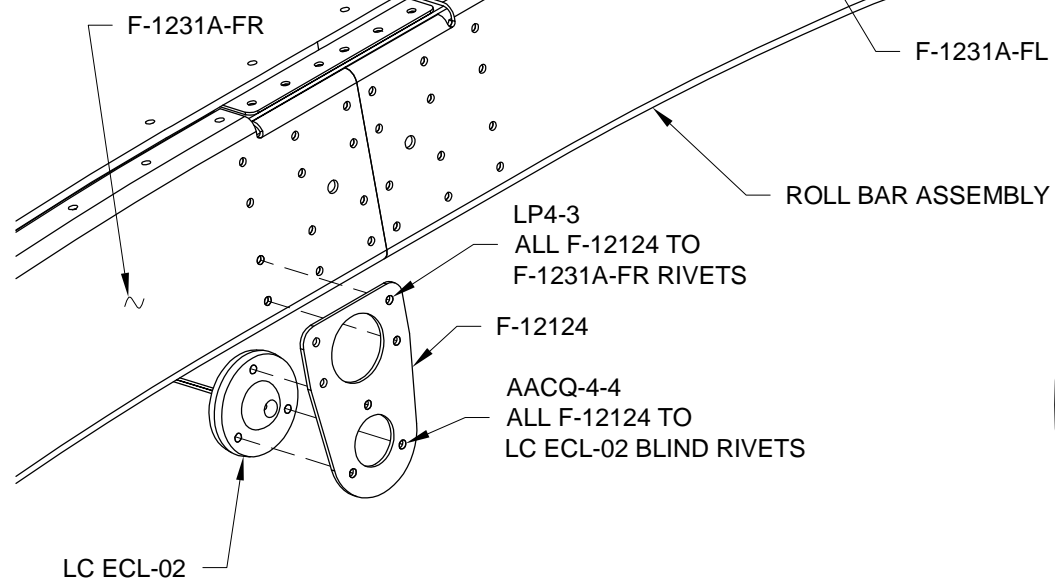

FIGURE 1: ADDING THE LIGHTING BRACKET
Step 3: Remove the two lower right rivets that hold the F-1231A-FR Roll Bar Frame and F-1231E Roll Bar Splice Plate together using a #30 bit. See Figure 1.
Rivet the light bracket to the web of the F-1231A-FR Roll Bar Frame as shown in Figure 1.
Step 9: Rivet the LC ECL-02 Red Eyeball Cockpit light to the F-12124 Light Bracket per the hardware in Figure 1.